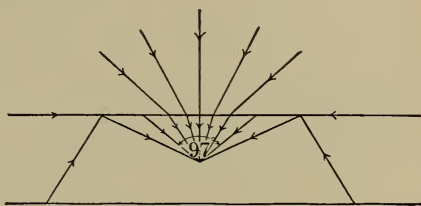

FIGURE 92.—A FISH'S VIEW OF THE OUTSIDE WORLD.
**134. A Fish's View of the Outside World.** — It is rather interesting to note just how the outside world looks to the fish below the surface of the water. Figure 92 is a diagram showing how the rays of light come to the fish's eye.